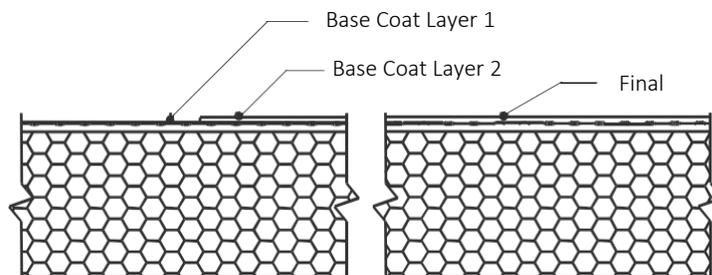

Fig. 22
- a. The base coat shall be applied such that the resulting overall minimum base coat thickness is sufficient to **fully embed** the reinforcing mesh. The recommended method is to apply the base coat in two (2) passes.
- 3) Allow the base coat mixture to take up until firm to the touch. Trowel a second tight coat of the base coat mixture over the first coat to **fully cover** the reinforcing mesh - Figure 22. The result should be such that the reinforcing mesh is approximately centered within the base coat thickness. Do not allow the first pass to completely dry prior to the second pass application or an excessive amount of base coat mixture will be necessary to fully coat the wall surface.